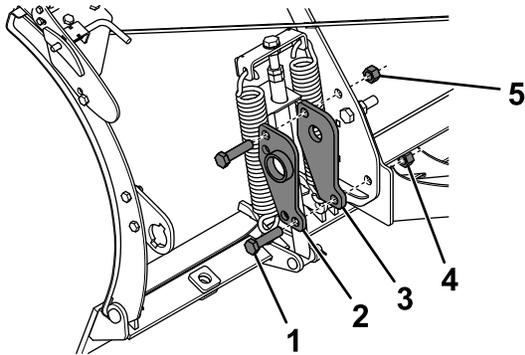

Figure 7
11. Loosely attach a trip edge bracket to the second outermost plow rib using 2 bolts (3/4 inch), the previously removed locknut, and 1 new locknut (Figure 7).